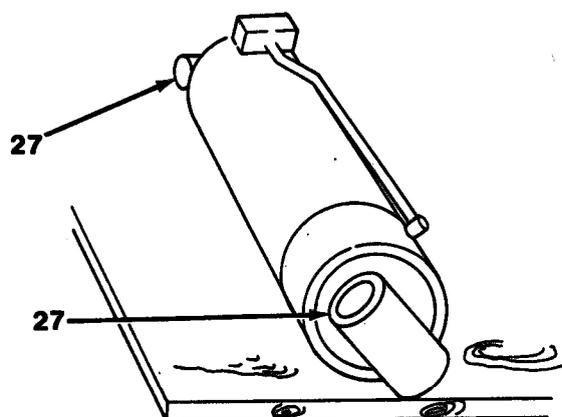

Figure 13-9
Cool bushings (27, Figure 13-9), if removed, in liquid nitrogen to cool them. Apply Loctite RC680 and install four bushings (27).
1. Submerge four bushings (27, Figure 13-9), if removed, in liquid nitrogen to cool them. Apply Loctite RC680 and install four bushings (27).